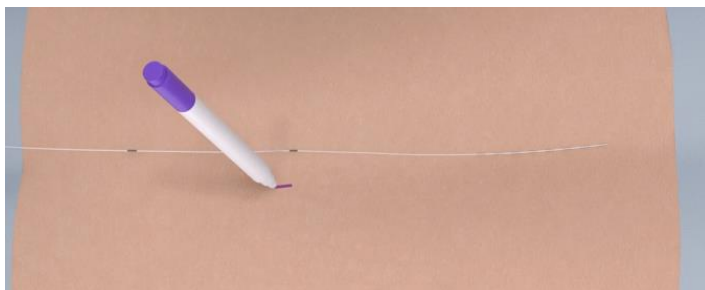

Figure 1
2. Mark the incision site using a skin marker at the first marker band on the skin. (Figure 1)